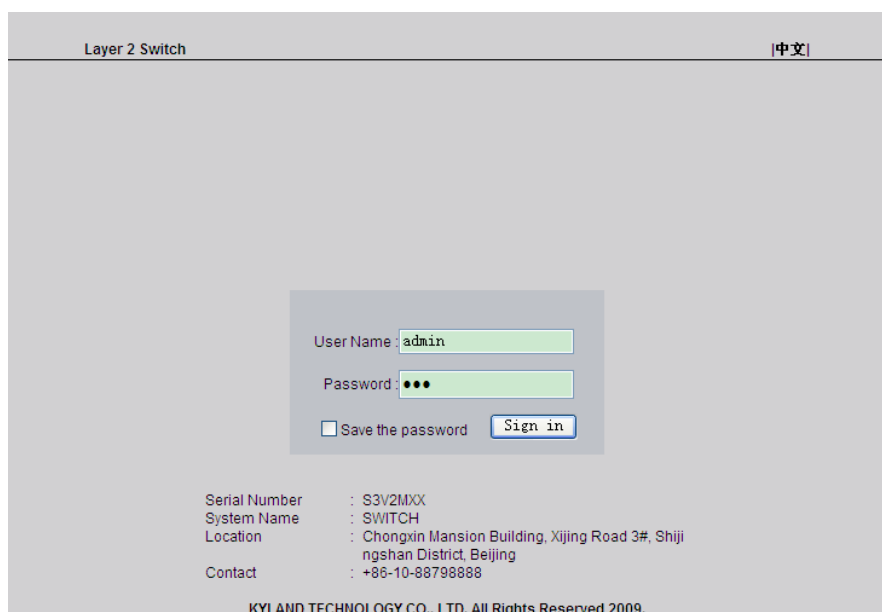

Figure 35 Web Interface Access Screen
2. Input the IP address of the current switch in web browser, the default IP is **192.168.0.2**. The Web interface access screen will appear as shown below in Figure 35, login with default user name “**admin**” and password “**123**”.